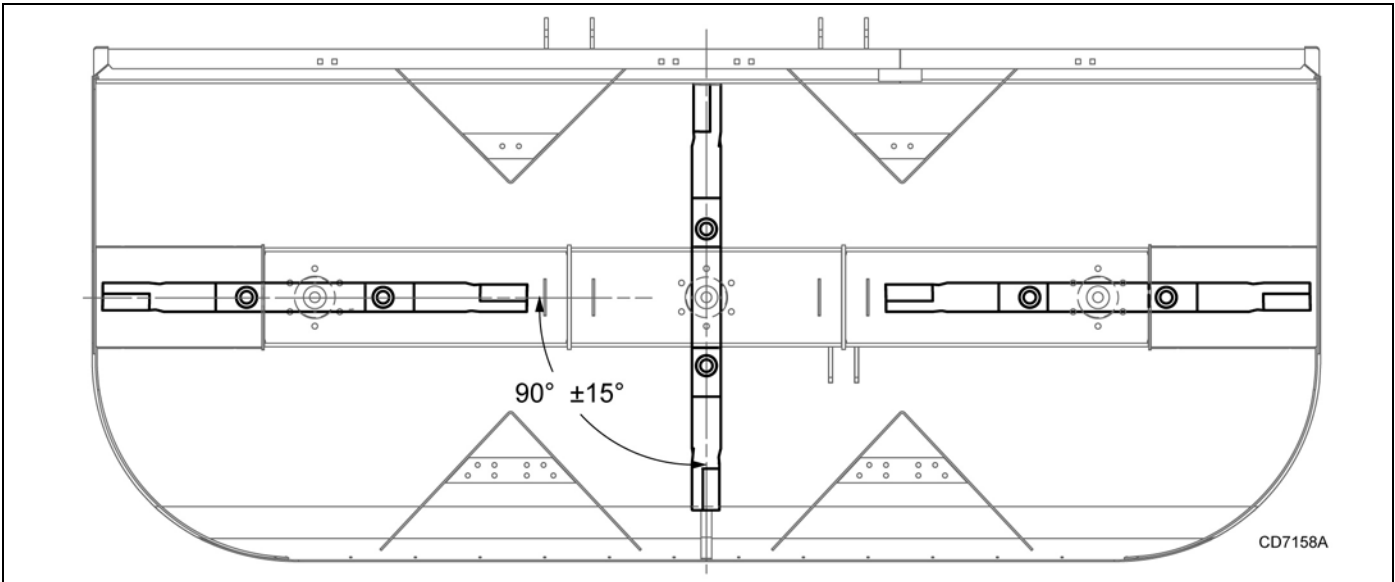

Figure 21. Crossbar Timing - Bottom View
1. To re-time crossbars, position bars as shown in Figure 21.